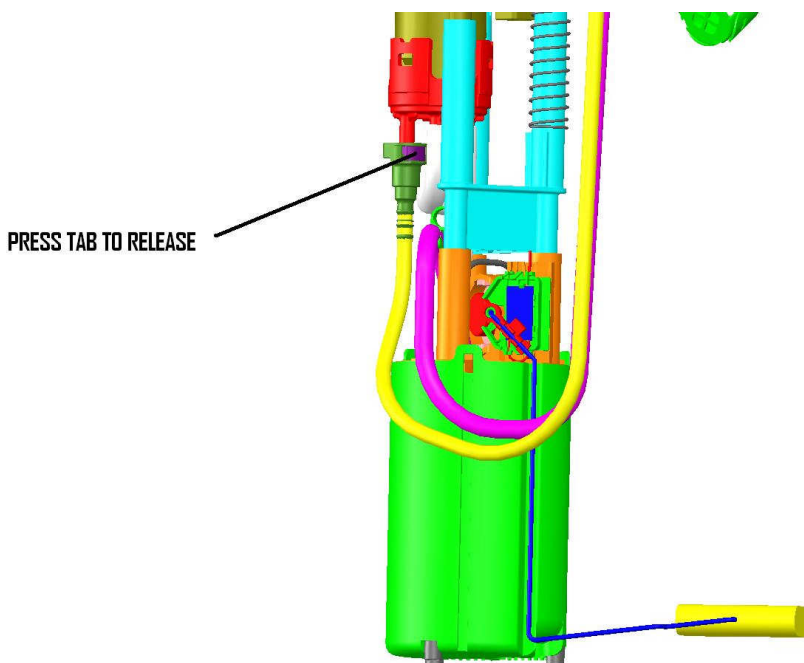

FIGURE 1-7
16. Remove the fuel pump assembly from the tank. Be careful not to damage the float level arm during removal. Release the fuel line from the fuel pump assembly by pressing the tab. **FIGURE 1-7**